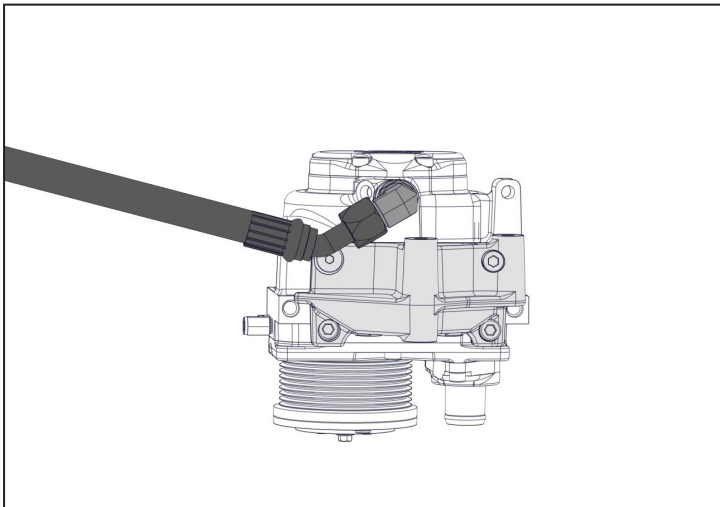

Figure 7 — Compressor discharge hose
- Install the 45° fitting from the 1/2 in x 24 1/2 in discharge hose onto the compressor discharge fitting. Orient the hose in the same direction as the #6 JIC oil fitting on the side of the compressor and tighten the hose securely (Figure 7).